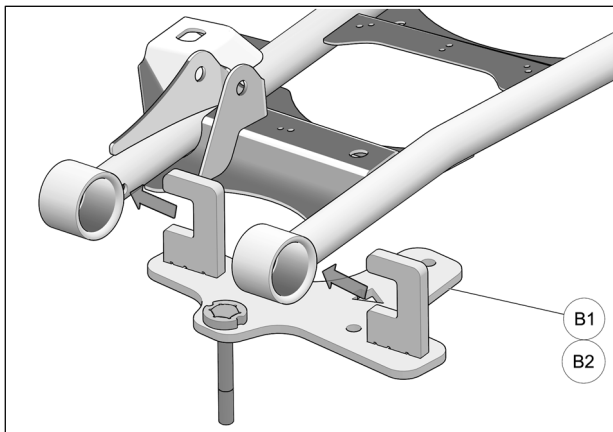

Fig. 6
6. Position anchor bracket (**B1-B2**) under lower suspension arm; C-shaped openings on bracket must be installed on suspension arm tubes. Refer to Fig. 6